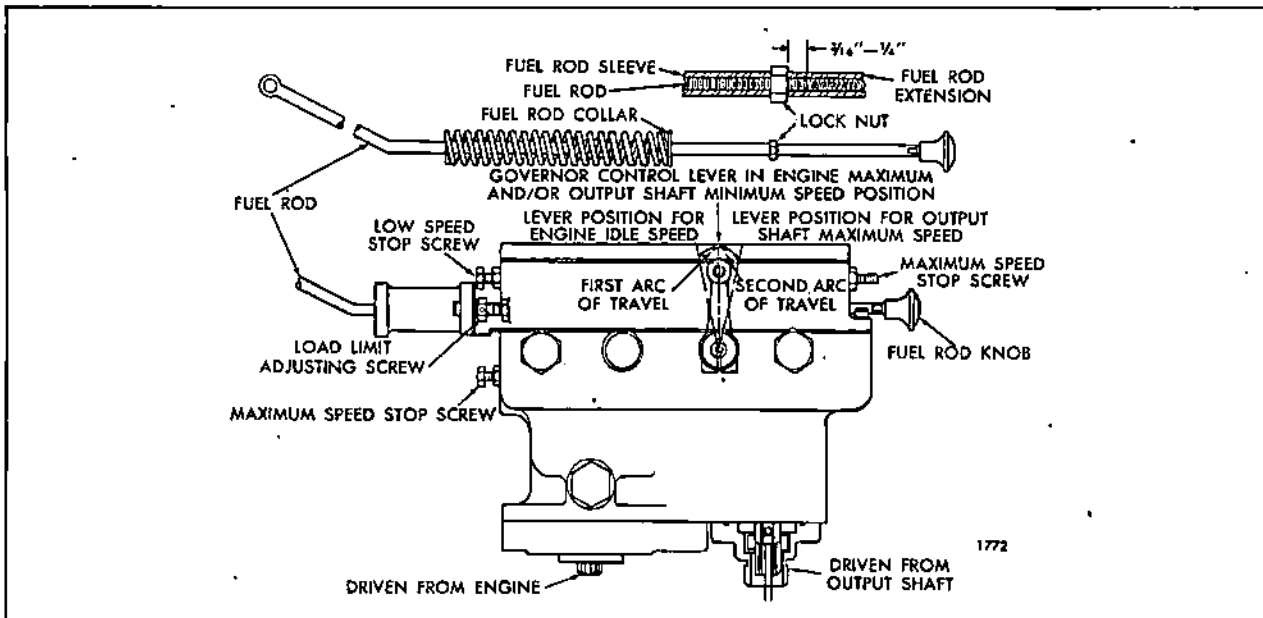
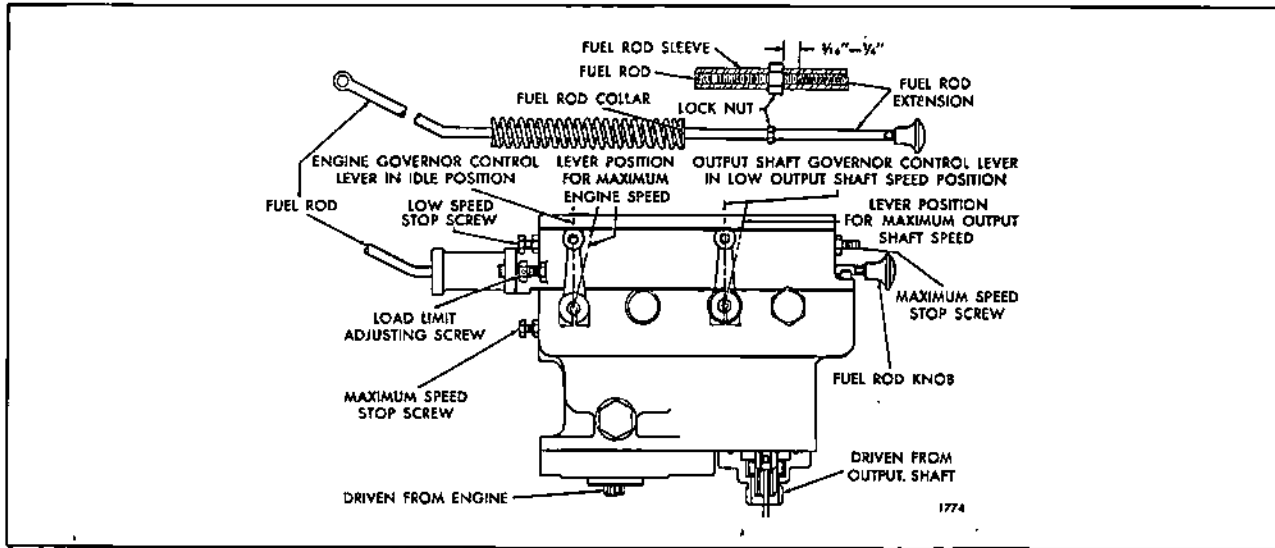

Fig. 24 - Single Lever Dual Hydraulic Governor
Fig. 26 - Two-Lever Dual Hydraulic Governor
A dual hydraulic governor assembly is used with certain torque converter applications. This governor consists of 2 sets of flyweights and pilot valve assemblies that are interconnected to operate a single servo piston. One set of flyweights are driven by the engine. The other set is driven through a flexible shaft by the output shaft. The governor assembly used on a particular engine may have either single, Fig. 24, or dual, Fig. 26, speed control levers.
The control lever, on the single lever type governor, is attached to the output shaft governor speed adjustment shaft, Fig. 24. The engine governor and the output shaft governor speed adjusting shaft arms are linked together by a "slip-joint" link as shown in Fig. 25.
Pull out the fuel rod knob shown in Figs. 24 and 26, when it is necessary to stop the engine.
2. Loosen the lock nut on the engine governor load limit adjusting screw (Fig. 24). Back the screw out until the end of the screw is flush with the face of the boss and tighten the lock nut.
2. Loosen the lock nut on the engine governor maximum speed stop screw, Figs. 24 and 25, and back out the screw until it projects 5/8" from the face of the lock nut when the nut is tight against the governor body.
On dual lever type governor assemblies, position output shaft governor control lever, using remote throttle control, in the low output shaft speed position (Fig. 26).